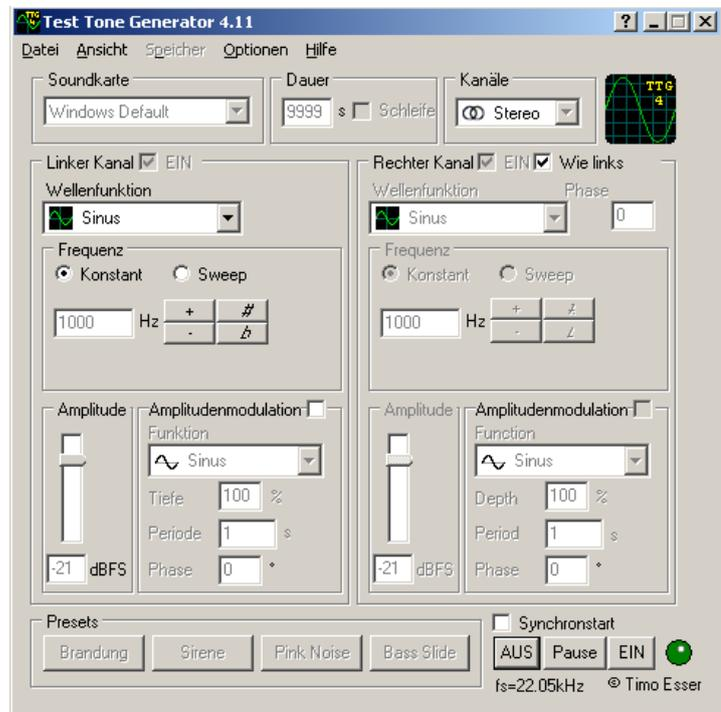
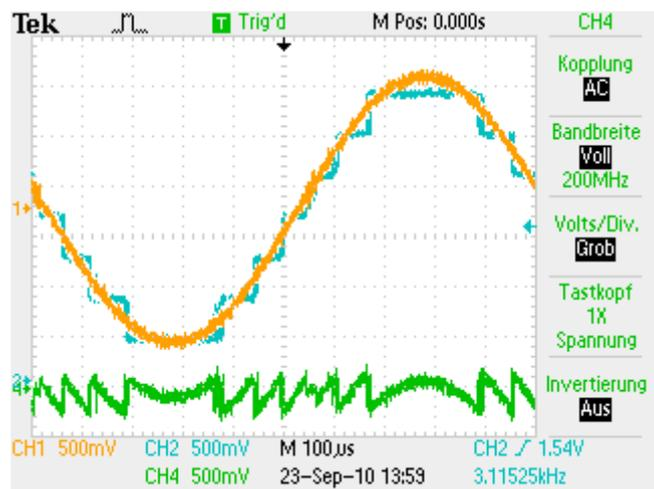

Figure 4.3.3: Using the sound card as signal source. Of course, you can use other signal sources also!
Figure 4.3.4: Measuring quantization noise
Goal of this subchapter is to assemble the circuit in Fig. 4.3.3(a), quantize a sinusoidal test tone with the Flash-ADC and get the upper two curves of Fig. 4.3.4(b) on the oscilloscope.
Connect CH2 of your oscilloscope with *DAC3out* (e.g. test point *A25*). This curves corresponds to the blue staircase line in Fig. 4.3.4(b).
B. Circuit Assembly acc. To Fig. 4.3.3(a) on the DA2 daughter board:
- (a) After a quick installation you will see the window shown in Fig. 4.3.3(b).
- IV. $U(CP_in_P)$ shown at oscillator channel CH1 corresponds to the yellow sinusoidal curve of the screen-shot in Fig. 4.3.4(b).
- V. You should now have the sinusoidal (yellow) and staircase (blue) curves shown in Fig. 4.3.4(b) on your oscilloscope. You may slightly adapt the amplitude of the *Test Tone Generator* to make the 9-level staircase curve as "nice" as shown in the Figure.
Goal of this subchapter is to make the difference (= quantization noise) between sinusoidal input and staircase output curve visible as shown in the bottom (green) curve of Fig. 4.3.4(b).
We should already have the sinusoidal (yellow) and staircase (blue) curves of Fig. 4.3.4(b) on the scope. The last unit untested so far on the DA2 board is the differential amplifier, which is well known in the literature as so-called *instrumentation amplifier*. It translates a differential input voltage into an output voltage measured versus a user-defined reference :
- Display $U(DiffOut)$ on the oscilloscope as shown with the bottom (green) curve in Fig. 4.3.4(b).